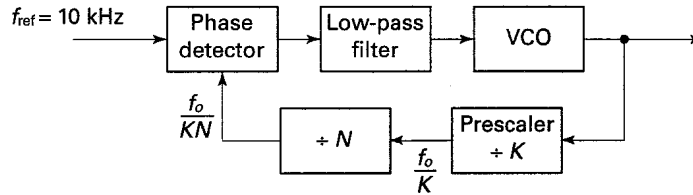

Fig. 2-30
**2.24** The prescaling frequency synthesizer of Fig. 2-30 produces 20 output frequencies in the frequency range extending from 146.0 to 148.0 MHz. The frequencies are equally spaced by 100 kHz. Determine: (a) the required divide-by- $K$  factor, (b)  $N_{\min}$  and  $N_{\max}$ .